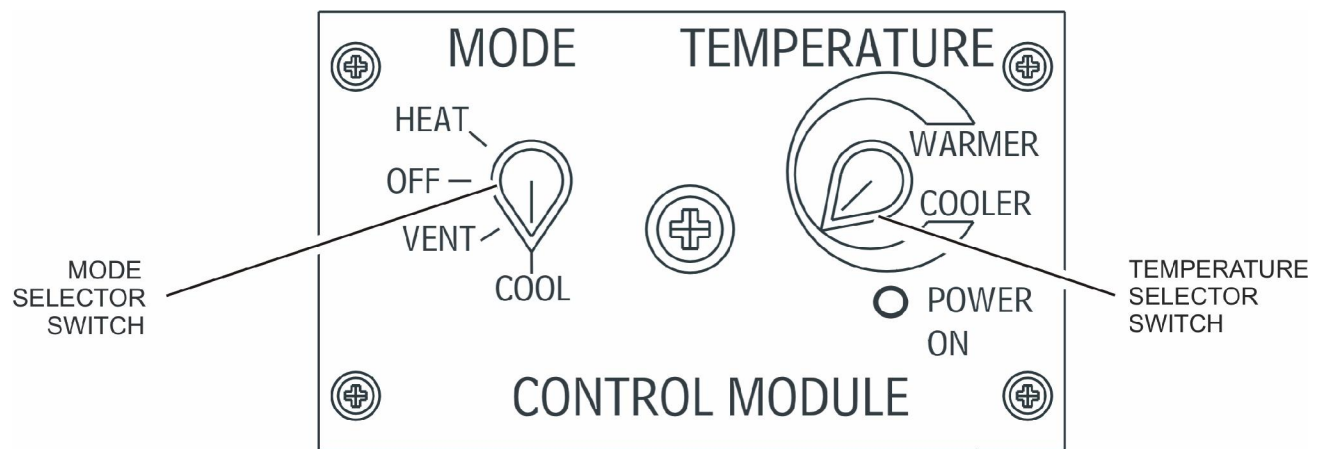

Figure 3. Remote Control Module
1. Rotate the temperature selector switch (see Figure 3) to cooler (counterclockwise) or warmer (clockwise) while the air conditioner is being operated in either the cool or heat mode in order to achieve the desired temperature in the conditioned area.